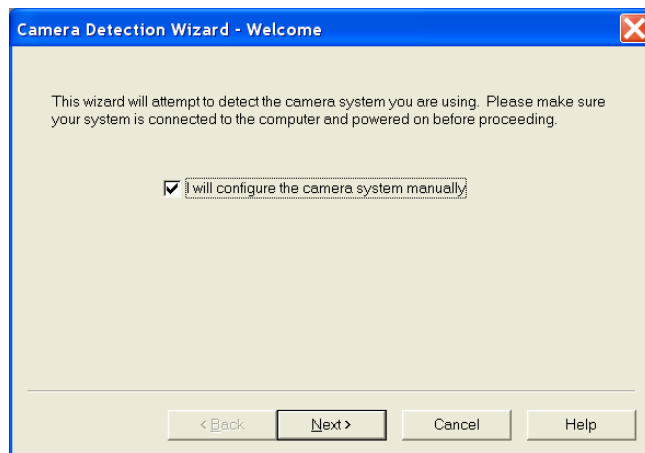

Figure 11. Camera Detection Wizard - Welcome (Manual selected) dialog
2. On the **Welcome** dialog (Figure 11), select the checkbox and click on **Next**.